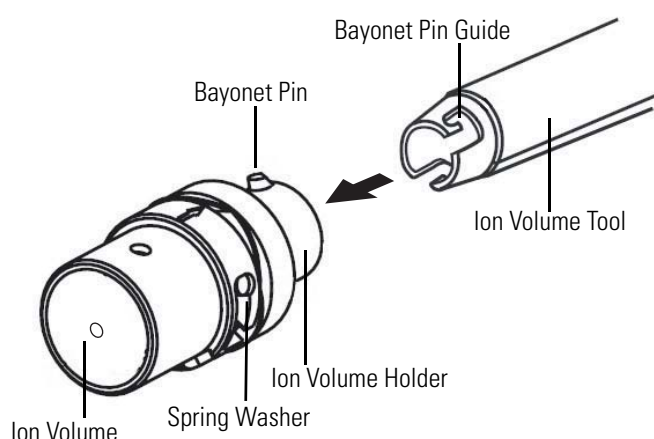

Figure 6-22. Ion volume assembly
- b. Remove the ion volume from the ion volume tool. Using clean gloves, press the ion volume into the tip of the ion volume tool and rotate it to disconnect the bayonet pins from the pin guides. Pull the ion volume out of the ion volume tool, as illustrated in Figure 6-22.